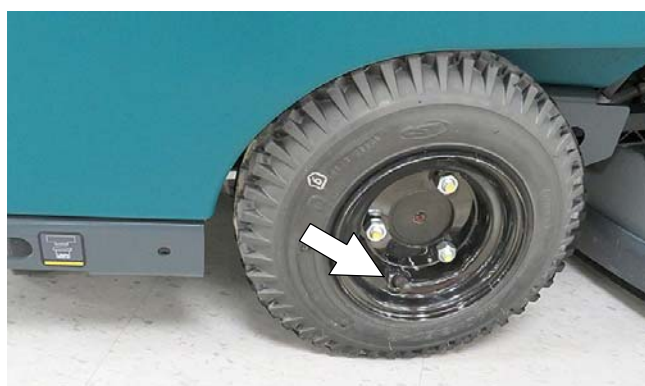

FIG. 113
4. Check tire pressure if equipped with the pneumatic (air-filled) tires (Figure 113). The proper tire pressure is 60 to 65 psi (415 to 450 kPa).